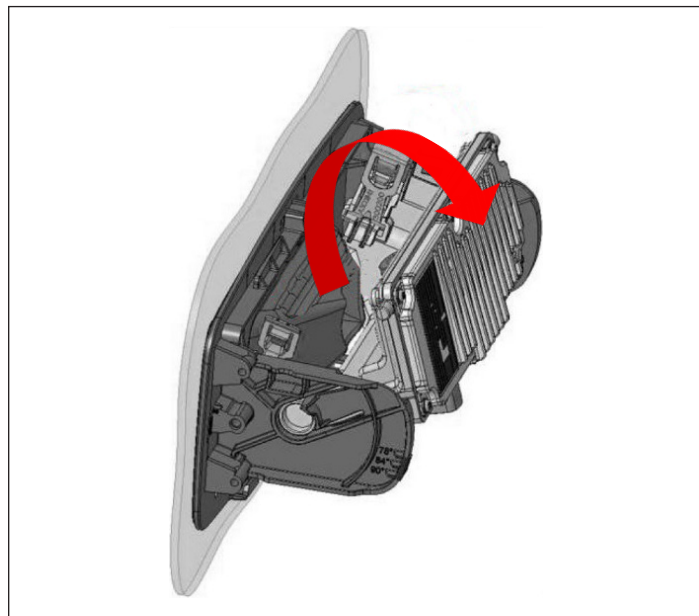

Figure 10 – Camera Rotation
6. Once the clips are released, the camera can be rotated up and out of the clips. This may require the use of screwdrivers to pry the camera from the clips. See *Figure 10*.